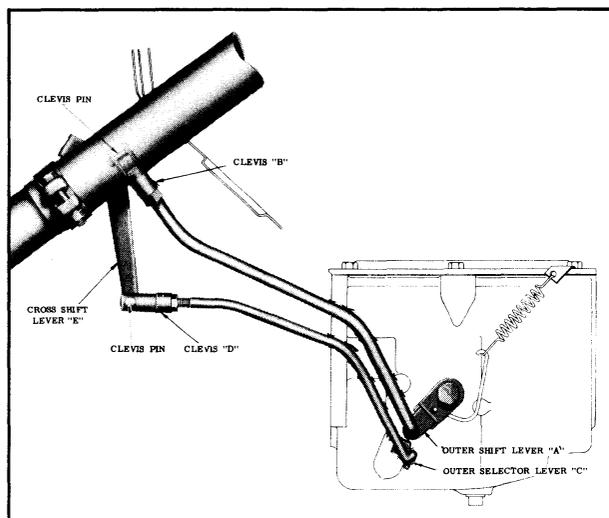

Fig. 11-1 Shift Lever Adjustment
1. Set the transmission outer shift lever "A", Fig. 11-1, in neutral position.
3. With transmission outer selector lever "C", Fig. 11-1, against rear stop, and hand control lever knob resting in neutral position, adjust clevis "D" so that clevis pin will easily enter hole in lever "E" while holding lever forward to take up lash.